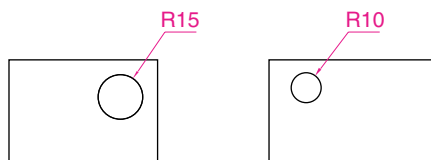

Fig. 6.26 Example – **Geometric Tolerance** dimensions to be toleranced
1. Construct the two rectangles with circles as in Fig. 6.26.